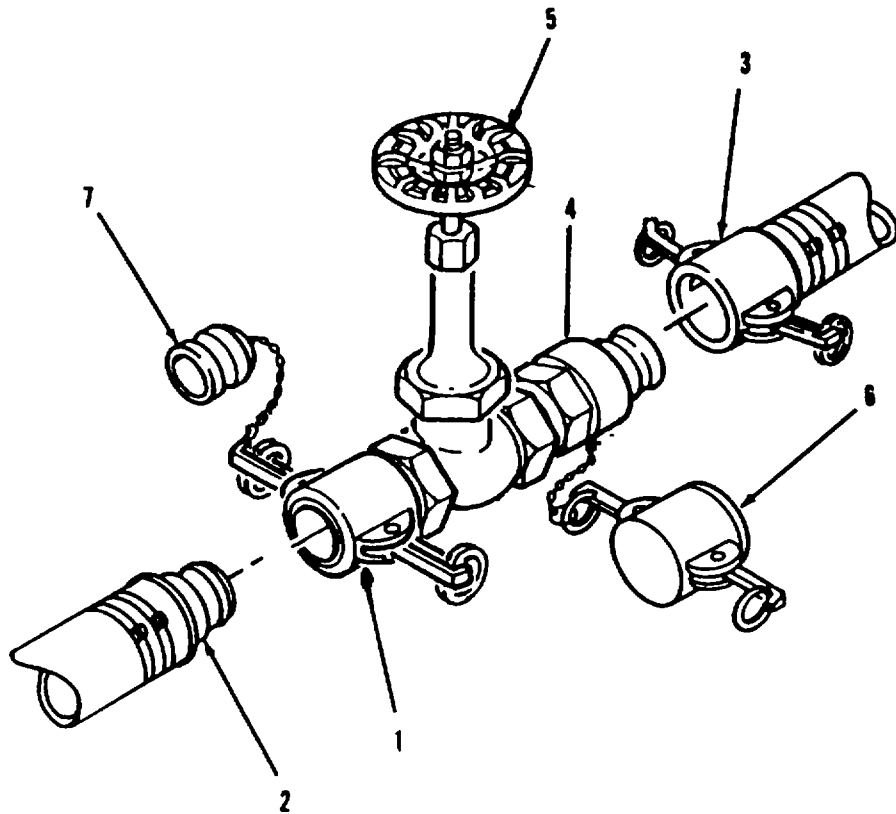

Figure 3-1. Component Replacement
- a. Removal. Refer to Figure 3-1.
- (1) Disconnect female coupling (1) from male coupling (2).
- (2) Disconnect female coupling (3) from male coupling (4).
- (3) Remove defective 2-inch gate valve (5) from water system.
- (4) Install cap (6) on male coupling (4).
- (5) Install plug (7) in female coupling (1).
- b. Installation. Refer to Figure 3-1.
- (1) Remove plug (7) from female coupling (1).
- (2) Remove cap (6) from male coupling (4).
- (3) Position 2-inch gate valve (5) in water system.
- (4) Connect female coupling (1) to male coupling (2).
- (5) Connect female coupling (3) to male coupling (4).
- (6) Start up water system (para. 2.9c) and check for leaks at 2-inch gate valve (5).
- (7) Refer unserviceable component to unit maintenance for repair.